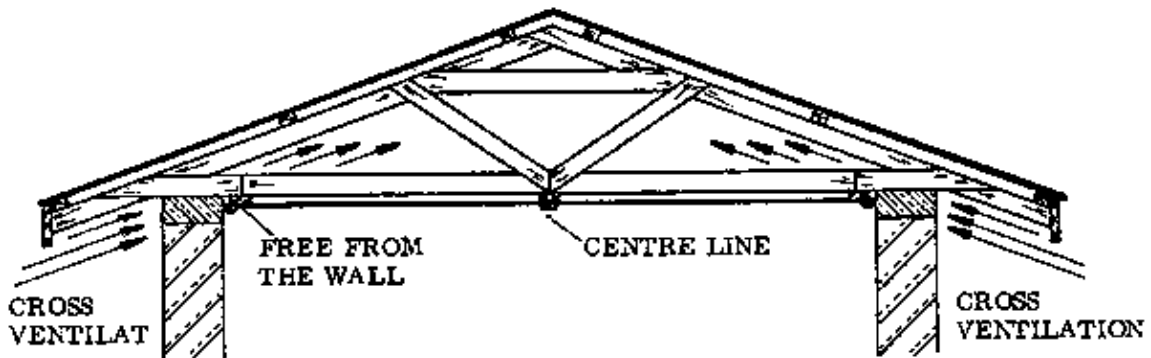

Fig. 2
Cross ventilation keeps heat from building up between the roof and the ceiling, and thus the rooms are cooler (Fig. 2).
– **INSTALLING THE PLYWOOD CEILING SHEETS:** Always start by fixing a line to show the exact centre of the room (Fig. 2, previous page). Start fitting sheets from this line. In case the sheets will not fit exactly in the room without being cut, start by putting one whole sheet in the centre of the ceiling, then divide the remaining space into equal areas.